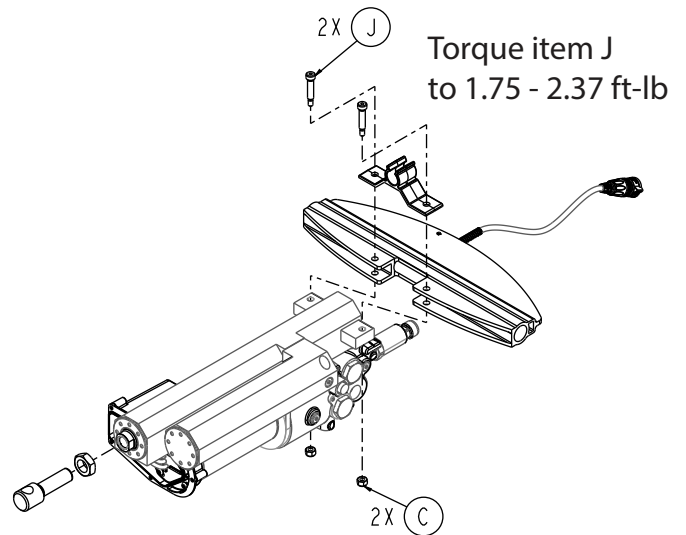

Figure 30 – Remove the actuator assembly bolts and nuts
- Using a 1/8" hex wrench and 3/8" combination wrench, remove the two socket head shoulder bolts (J) and Fiberlock nuts (C) that secure the actuator assembly to the X-frame cross brace (Figure 30). Save the bolts and nuts.